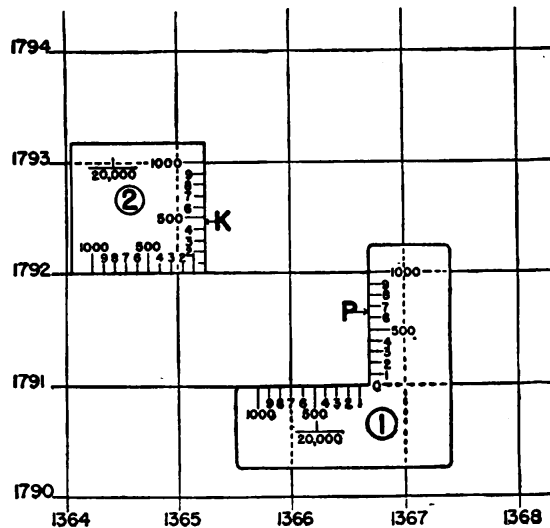

FIGURE 242.—To plot position of point with coordinate scale on terrain map (1:20,000 scale) having a 1,000-yard grid. (Not reproduced to scale.)
Q. Explain in detail how to read the coordinates of any point on a gridded map. *A.* The coordinates of any square in the grid system are the X and Y coordinates of the lower left hand (south-west) corner of the square. The coordinates of the lower left hand square in figure 242 are (1,364,000–1,790,000) but are usually written (1364–1790), it being understood that each number represents thousands of yards. These coordinates also locate to the nearest thousand yards any point in the lower left hand square of figure 242. To locate a point more closely we can assume that each side of the square in question is divided into 10 equal parts, each of which represents 100 yards. Then the coordinates of the center of the lower left hand square would be expressed as (1364.5–1790.5), which locates the center to the nearest hundred yards in each direction. The method may be further refined to read to the nearest 10 yards.
Q. What is a coordinate scale? Explain its use. *A.* A coordinate scale is a right-angled ruler made of thin metal, celluloid, or other material with scales on it equal in length to the grid interval of the map being used (fig. 242). To plot any point on the map, for instance the Point P of which the coordinates are given as (66.70–91.65), place the coordinate scale on the map in position ① as shown in figure 242. The position of P can be marked at once with a pin or sharp pencil. It should be noted here that the first two numbers of the coordinate expression (1366.70–1791.65)